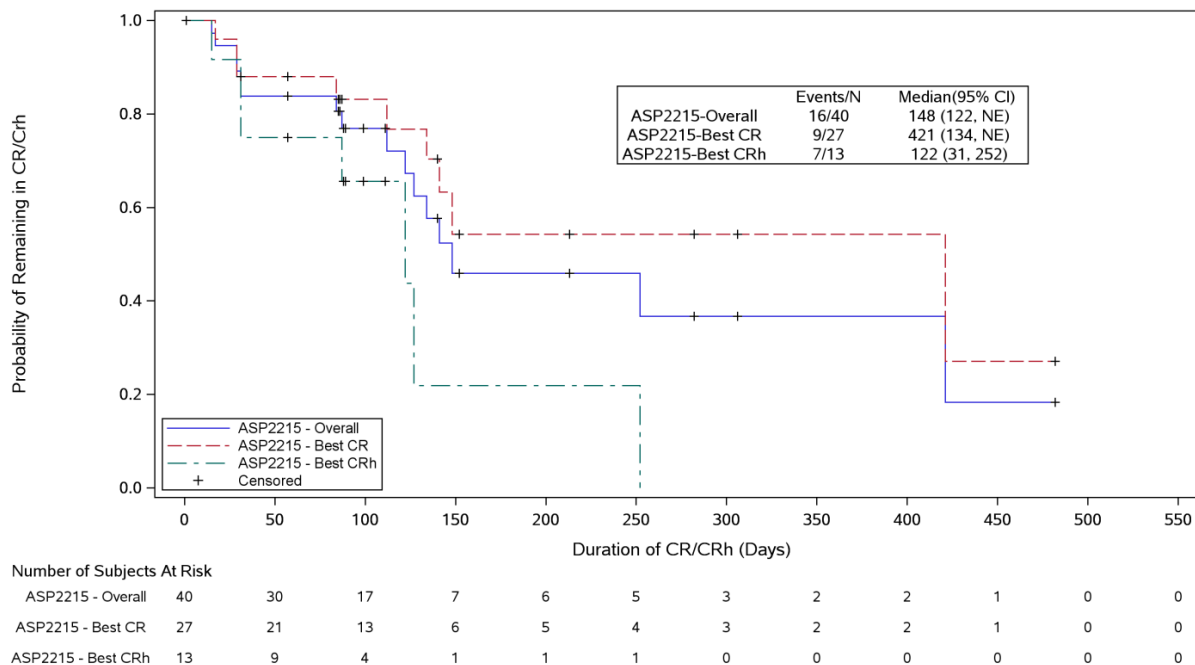

Figure 8 - Kaplan-Meier plot of duration of CR/CRh
- 17.6.1. Median duration of response in subjects with response of CR/CRh was 148 days (Events=16; Censored=40). In the group of subjects with best response of CR, the median duration of response was 421 days (Events=9; Censored=27). In the group of subjects with response of CRh, the median duration of response was 122 days (Events=7; Censored=13). The Kaplan-Meier plot is provided in Figure 8.